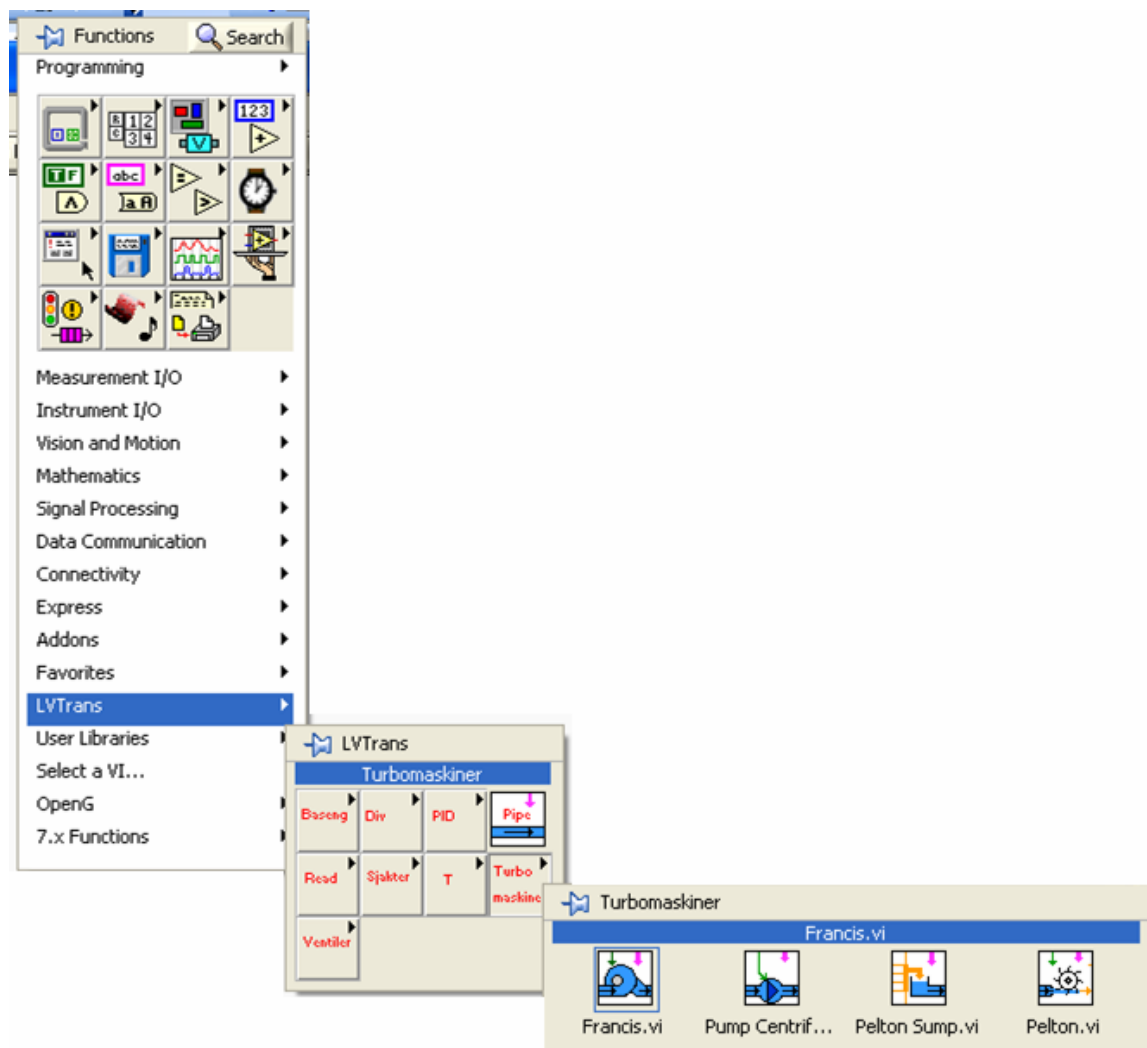

Figure 4.1 Menu system with all (LVTrans) elements
10. If everything is done correctly, the menu will be as shown in Figure 4.1